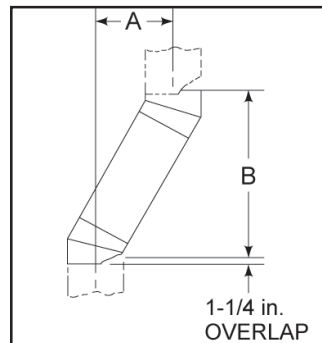

Figure 7 - Chimney Offset/Return
- 1) Measure how far the chimney needs to be shifted to enable it to avoid the overhead obstacle. See Figure 7, dimension "A" to determine chimney sections required to achieve the needed shift.
Example: Your "A" dimension from Figure 7 is 14-1/2 in. Using Table 1 the dimension closest to, but not less than 14-1/2 in. is 14-5/8 in. using a 30-deg offset/return. It is then determined from the table that you would need 33 in. (Dimension "B") between the offset and return. The chimney components that best fit your application are two SL312s.